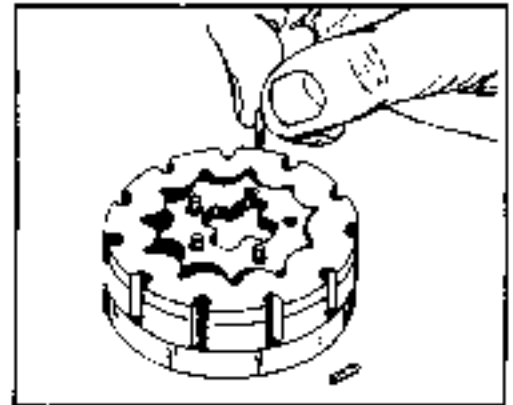

FIGURE 27.
remove alignment pins 32. Remove the five alignment pins (11). See figure 27.